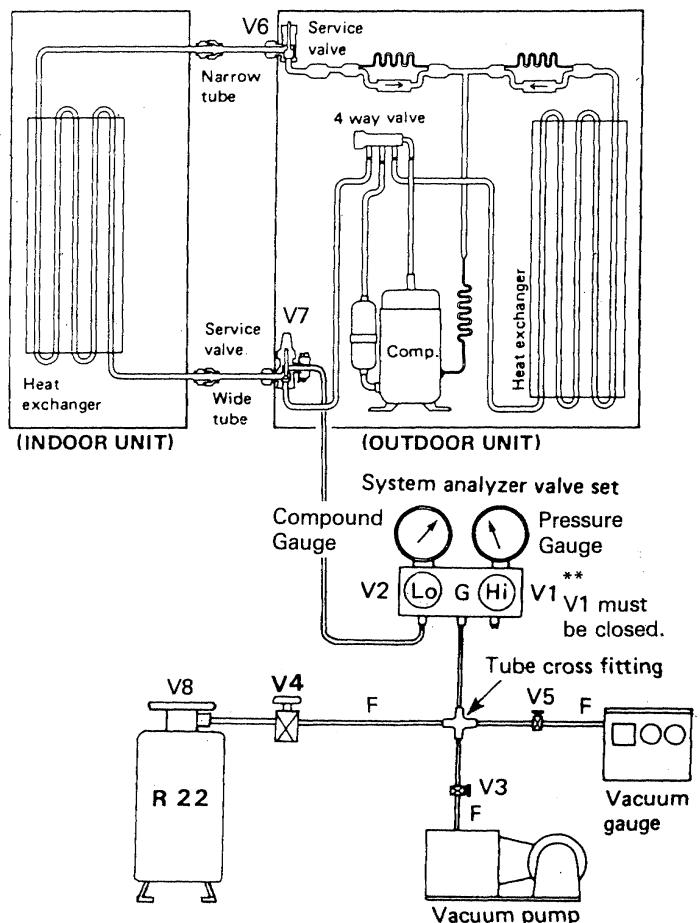

Fig. D-23
- 1) Connect instrument as in Fig. D-23